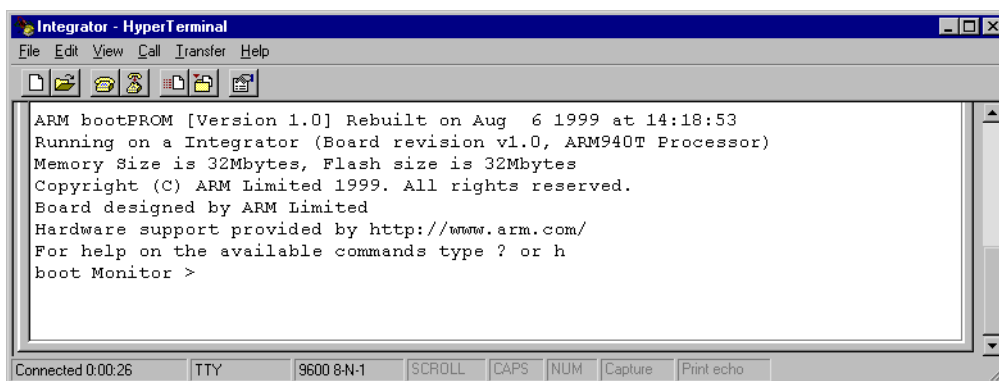

Figure 3-10 Terminal prompt
- c. Reset the development board. You now see the boot monitor prompt, similar to that shown in Figure 3-10.